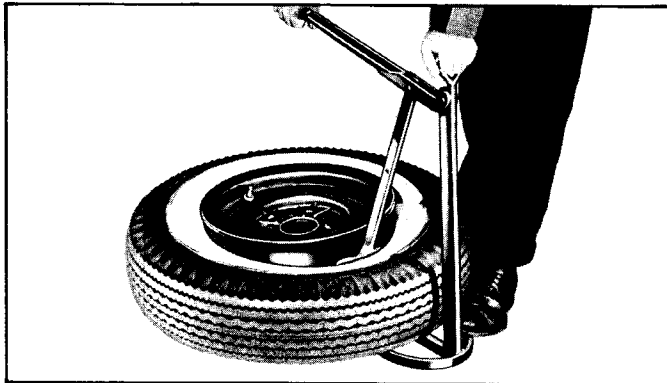

Fig. 1-1—Bead Loosening Tool—Typical—(60C-2801)
2. Loosen the tire beads with the tool shown in figure 1-1.